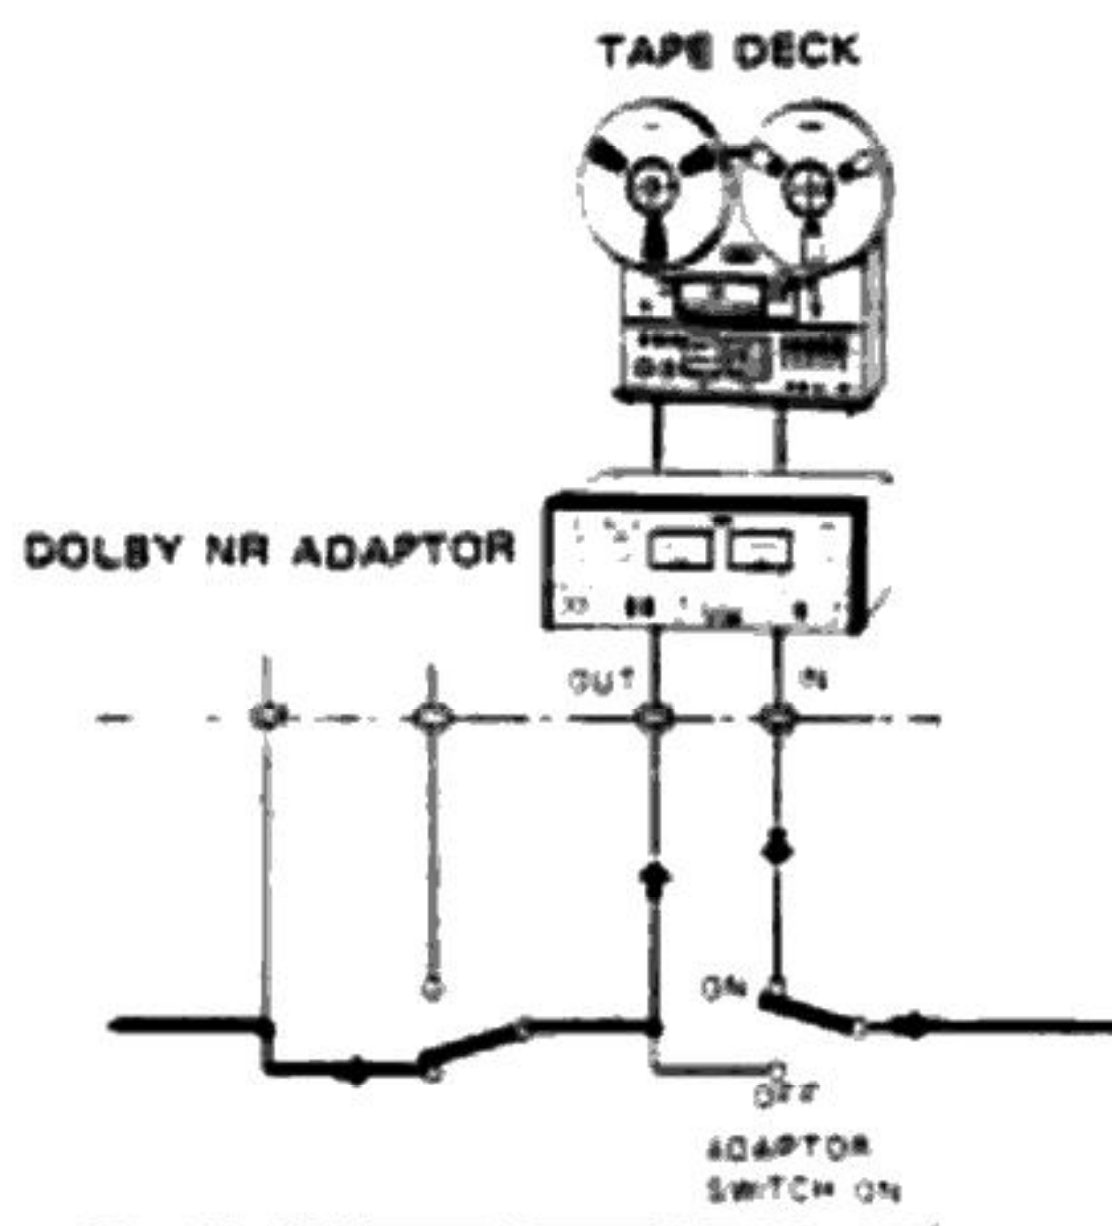

Fig. 25
1. As shown in Fig. 25, connect the Dolby adaptor output jacks to the tape deck recording input jacks (LINE INPUT).